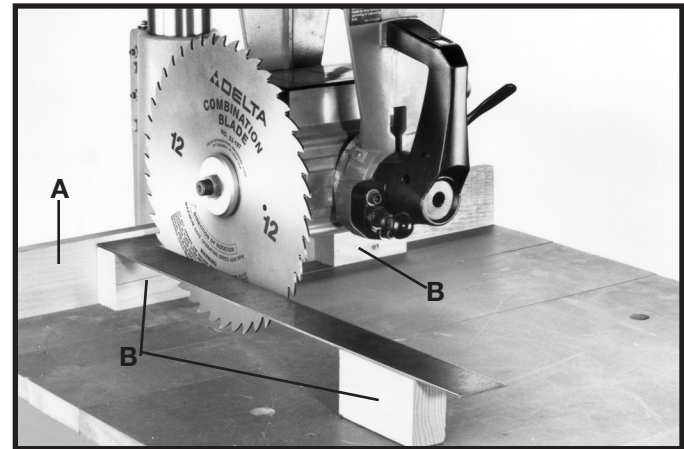

Fig. 55
2. Take a piece of 3/4” plywood or similar piece of wood (A) Fig. 55, at least 5” wide, and clamp it between the table boards in place of the fence, as shown.
3. Using three 2 x 4's four inches in height, as shown at (B) Fig. 55, lay a square on the 2 x 4's with one end of the square against the plywood (A) and the other end against the saw blade, as shown in Fig. 55.